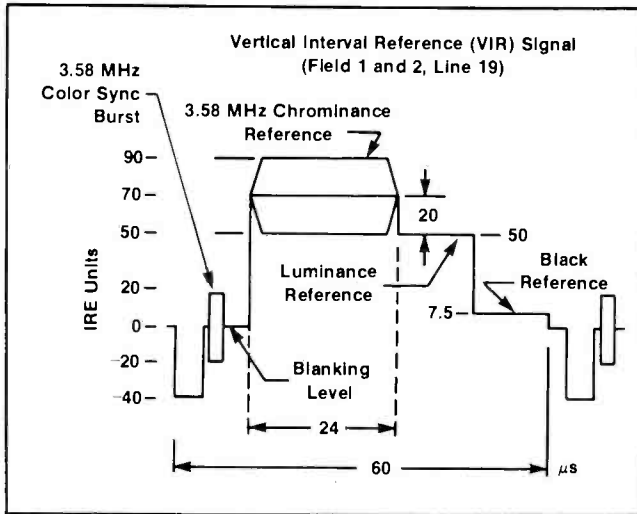

Figure 8. Vertical interval reference signal
**More signals.** The vertical interval reference (VIR) signal (Figure 8) is on line 19, fields 1 and 2. A Source Identification Signal (48 bits) is frequently on line 20, field 1, and indicates the origin of the broadcast, the network, date, time, etc. One interesting signal often inserted somewhere in the vertical interval indicates caption availability for deaf viewers.